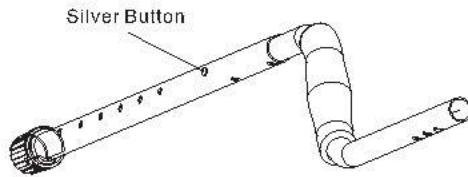

Fig.3
3. Take out the upper stem, the middle stem and the control box from the packing box. Press the silver button on the upper stem, and insert it into the middle stem. Let the silver button align with the two holes of the middle stem. (see Fig.3)